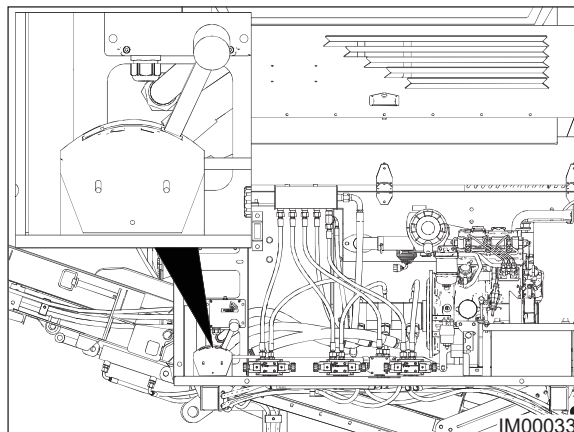

Fig: 9.8 - Throttle Lever
6. Using the Throttle (Fig: 9.8), reduce the engine speed to idle (950 RPM).